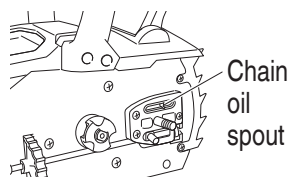

Fig. 42
3. Cleaning the chain oil spout (Fig. 42)